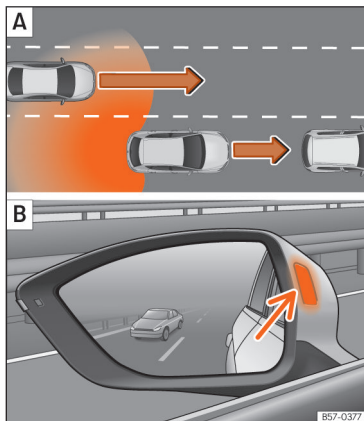
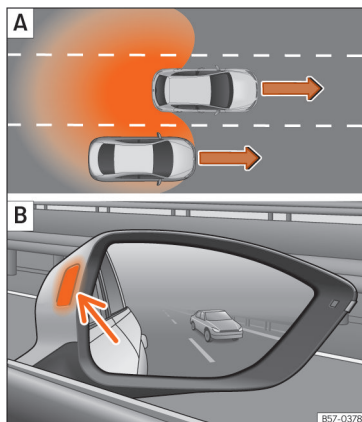

Fig. 152 Schematic diagram: **A**) Overtaking with traffic behind the vehicle. **B**) Side Assist indication on the left hand side.
Fig. 153 Schematic diagram: **A**) Overtaking in the central lane and then joining the right lane. **B**) Side Assist indication on the right hand side.
In the following situations, an indication will be displayed in the control lamp >>> Fig. 152 **B**) (arrow) or >>> Fig. 153 **B**) (arrow):
- When being overtaken by another vehicle >>> Fig. 152 **A**).
- When passing another vehicle >>> Fig. 153 **A**) with a speed differential of approx. 10 km/h (6 mph). If the vehicle is passing at a considerably higher speed, no indication will be displayed.